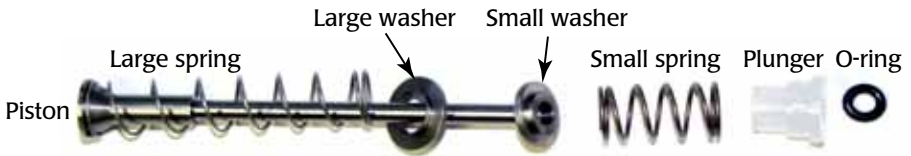
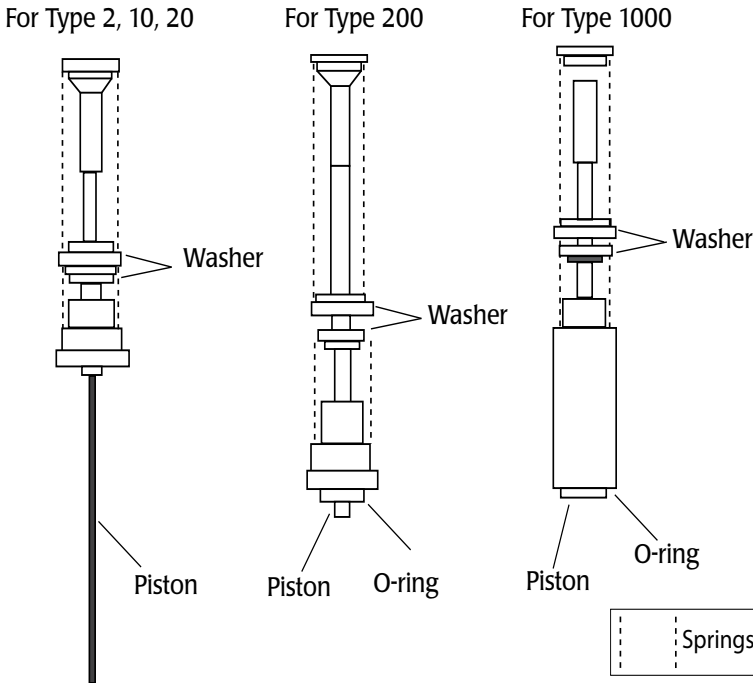

Fig. 5—Piston assembly from the CRYSTAL-200
Fig. 6—Tip ejector units.
3. Remove the piston assembly (**Fig. 5**). **Fig. 6** shows drawings of the CRYSTAL pipette piston assemblies.